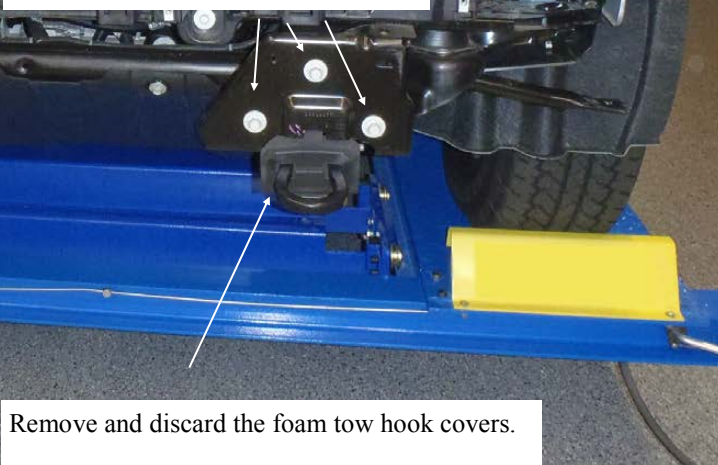

Fig. 7
5. Remove the factory tow hooks and foam tow hook covers (Figures 7 & 8). They will not be re-used.